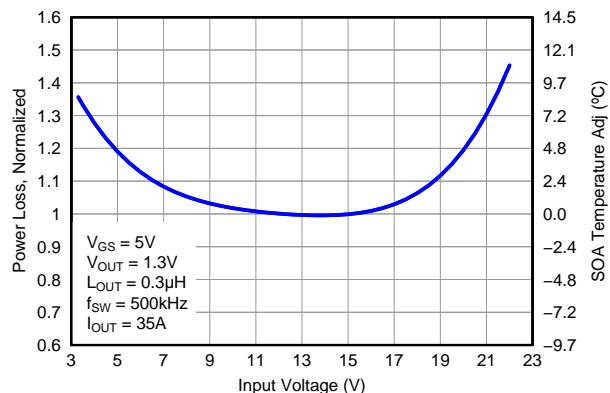

Figure 7. Normalized Power Loss vs. Input Voltage
- Normalized Power Loss for input voltage ≈ 1.07 (Figure 7)
- SOA adjustment for input voltage $\approx 2^\circ\text{C}$ (Figure 7)